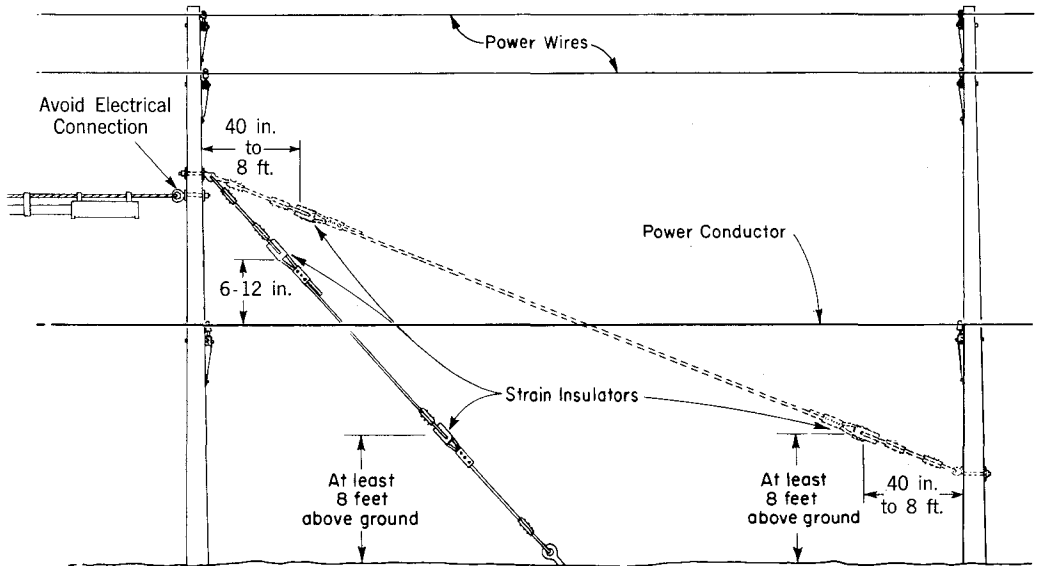

Fig. 4—Insulating Guys for Attachments Above Power Conductors
**3.05** On poles carrying power conductors *below* telephone attachments, place two strain insulators so one will be above the power conductor and one will be below. The upper insulator should be located 6 to 12 inches above the level of the power conductor. Avoid grounding the upper part of the guy. (See Fig. 4.)